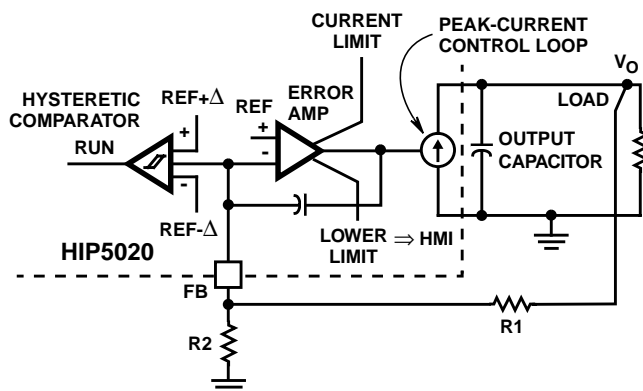
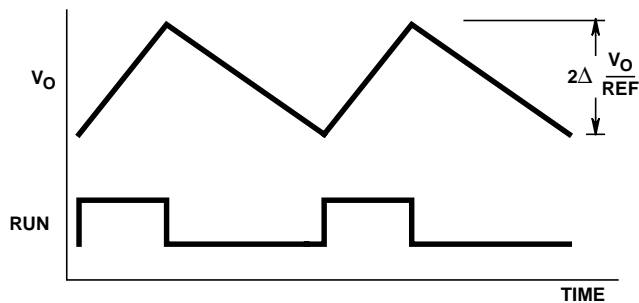
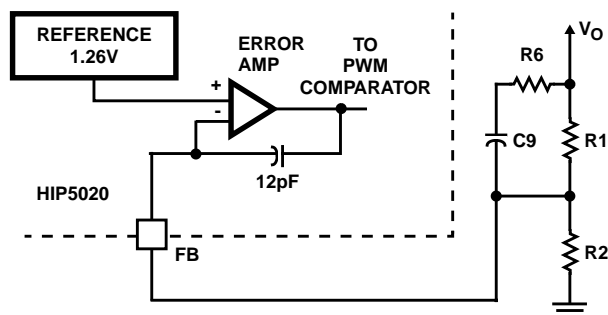

FIGURE 5. SIMPLIFIED DIAGRAM OF OUTPUT VOLTAGE REGULATION AND MODE SWITCHING
FIGURE 7. TYPICAL HYSTERETIC MODE OPERATION
FIGURE 8. LEAD-LAG COMPENSATION CIRCUIT
When averaged over many switching cycles, the entire peak-current control loop can be simplified and described as a voltage controlled current source. Figure 5 shows a simplified diagram of this operation. The current source supplies the output capacitor and load. The outer voltage regulation loop consists of an error amplifier and compensation components. The error amplifier programs the inductor current (as described above) to the value required to regulate the output voltage. Both the error amplifier and hysteretic comparator monitor the feedback (FB) pin. During the Run mode, the feedback node voltage (V_{FB}) is held to the reference voltage (REF) by the voltage feedback loop. V_{FB} is related to V_o , R1 and R2.
The HIP5020 operates in the hysteretic mode with low output current. In this mode, the hysteretic comparator cycles the control on (RUN = High) and off (RUN = Low) as a function of the output voltage and the FB voltage level. Figure 7 illustrates the averaged Hysteretic Mode operation with reference to Figure 5. At light load, the error amplifier output voltage is held to the HMI voltage (V_{HMI}). This level commands an inductor current that exceeds the load current. The excess current flows into the output capacitor which increases the output voltage (V_O). The voltage feedback loop no longer holds V_{FB} at the reference voltage. When V_{FB} increases to the Upper Hysteretic Trip Level, the RUN signal transitions Low to power-down most of the control's functions, and the load is supplied by the output capacitor. After V_{FB} (and the equivalent output voltage) drops below the Lower Hysteretic Trip Level, RUN transitions High, turning on the controller. The converter replenishes the charge on the output capacitor (C1). This cycle repeats to regulate the output voltage.
The error amplifier and compensation components regulate the output voltage by controlling the current loop (as shown in Figure 5). The compensation components shown in Figure 8 realize a lead-lag circuit. The resistor R1 adjusts the loop gain of the converter and resistor R6 and capacitor C9 set the pole and zero. The resistor R2 does not appear in the lead-lag transfer function. R2 sets the output voltage level. First stabilize control loop by selecting R1 and then determine R2 for the desired output voltage level.